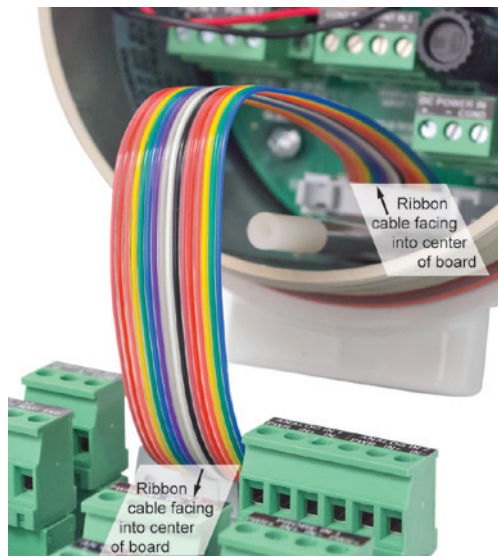

Figure 5.11—Ribbon cable orientation
11. Reconnect the ribbon cable to the latched connector on the top circuit assembly. Ensure that the ribbon cable faces the center of each circuit board, as shown in Figure 5.11, Page 51.
13. Grasp the top circuit assembly removed in Step 4 and reconnect the attached ribbon cable to the bottom circuit assembly as shown in Figure 5.11, Page 51.